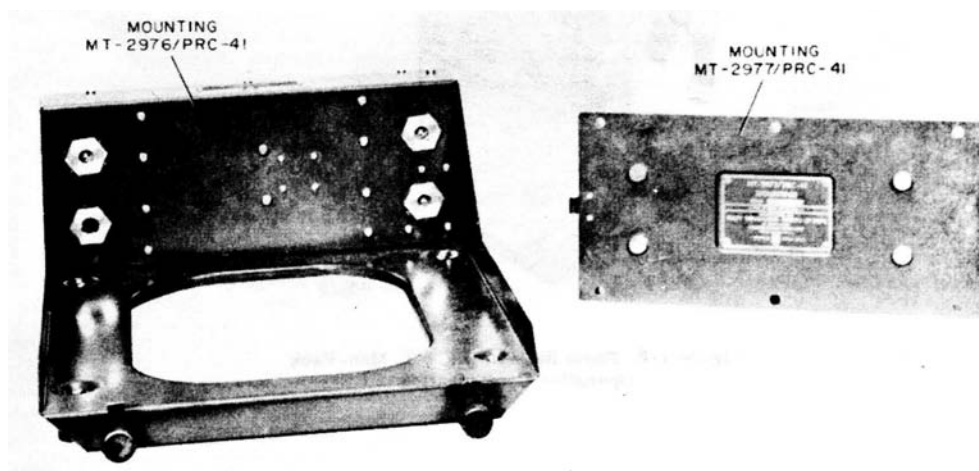

Figure 1-8. Mounting MT-2976/PRC-41 and MT-2977/PRC-41, Oblique Views
(3) MOUNTINGS MT-2976/PRC-41 AND MT-2977/PRC-41.- Refer to figure 1-8. Mounting MT-2976/PRC-41 is used to mount Radio Receiver- RT-695/PRC-41. This is normally used for a vehicular installation. Power Electric Cable Assembly CX-8686/PRC-41 may be connected to the input connector at the rear of the MT-2976/PRC-41. Mounting MT-2976/PRC-41 contains circuitry to prevent voltage polarity reversal from damaging the RT-695/PRC-41 and filter circuits for input filtering of the primary power voltage. Primary power is taken from the input connector at the rear of the MT-2976/PRC-41, fed through the mounting circuit and made available to the connectors at the front of the rear bracket of the MT-2976/PRC-41. These connectors mate with those at the rear of Receiver-Transmitter Case CY-3884/PRC-41. Two take-up fasteners are located at the front of the MT-2976/PRC-41 which clamp over the protection handles on the front panel of the RT-695/PRC-41 and hold the contacts at the rear of the CY-3884/PRC-41 in contact with the contacts at the front of the rear bracket of the MT-2976/PRC-41. Mounting MT- is used normally for a fixed station installation for mounting Power Supply PP-3700/PRC-41.